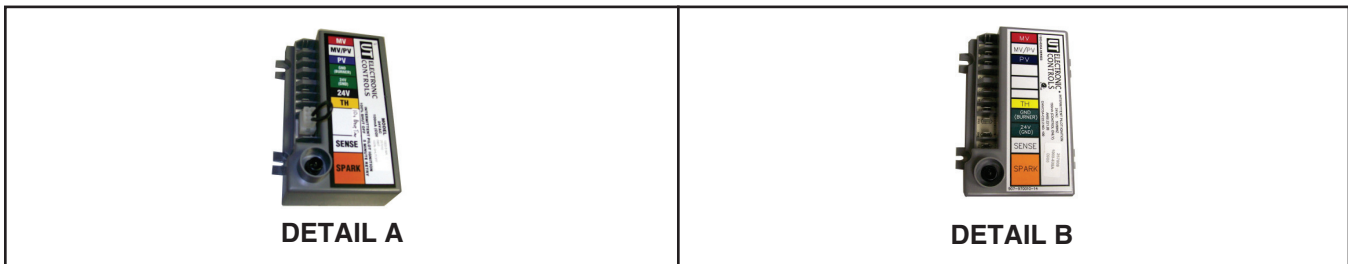

Figure 23. Ignition Controllers
- Ignition controller with lockout for option AH3 gas control (UTEK #1003-514, PN 257010) is shown in Figure 23, DETAIL A.
- Recycling ignition controller for option AH2 gas control (UTEK #1003-638A, PN 257009) is shown in Figure 23, DETAIL B.